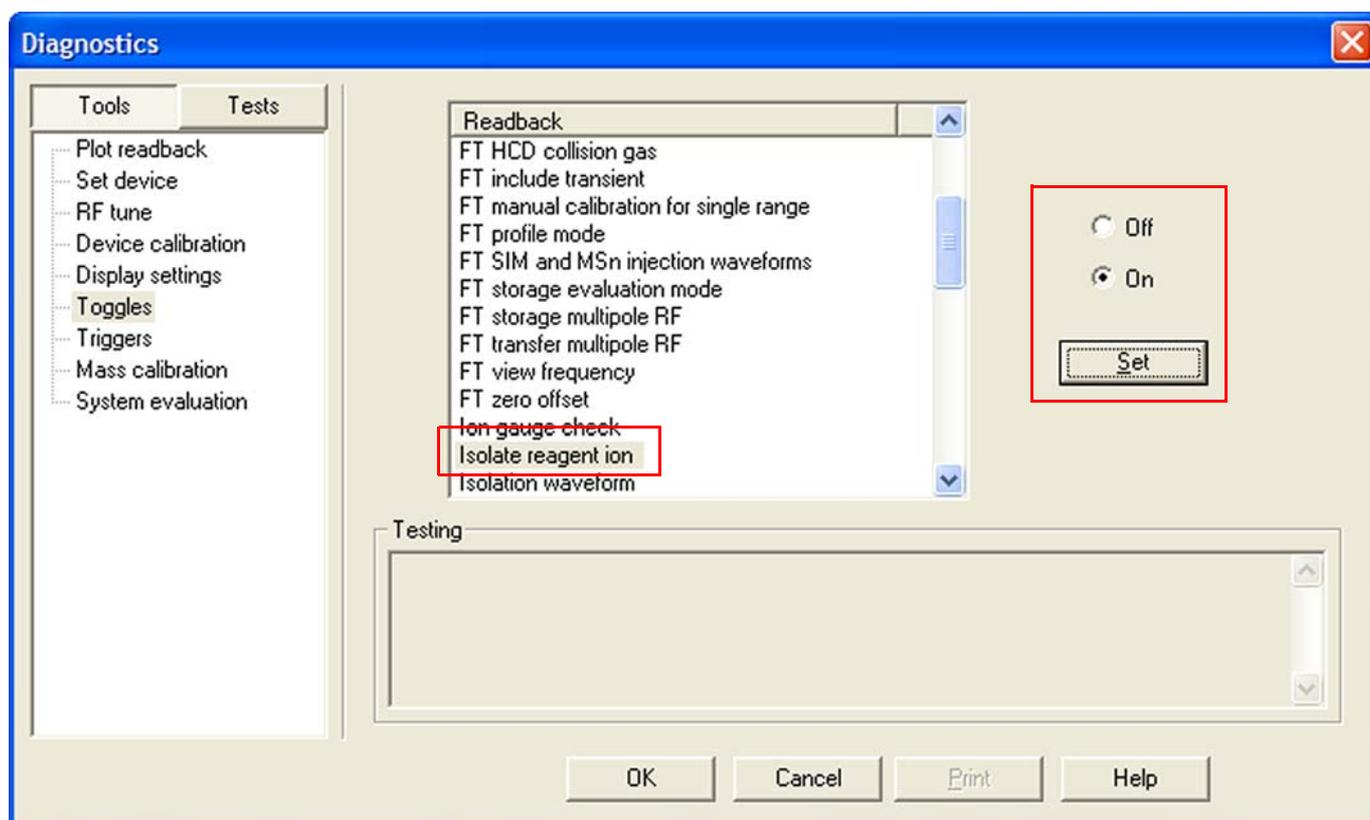

Figure 8-17. Activating Reagent Ion Isolation
3. Set **Isolate reagent ion** to On. See Figure 8-17.